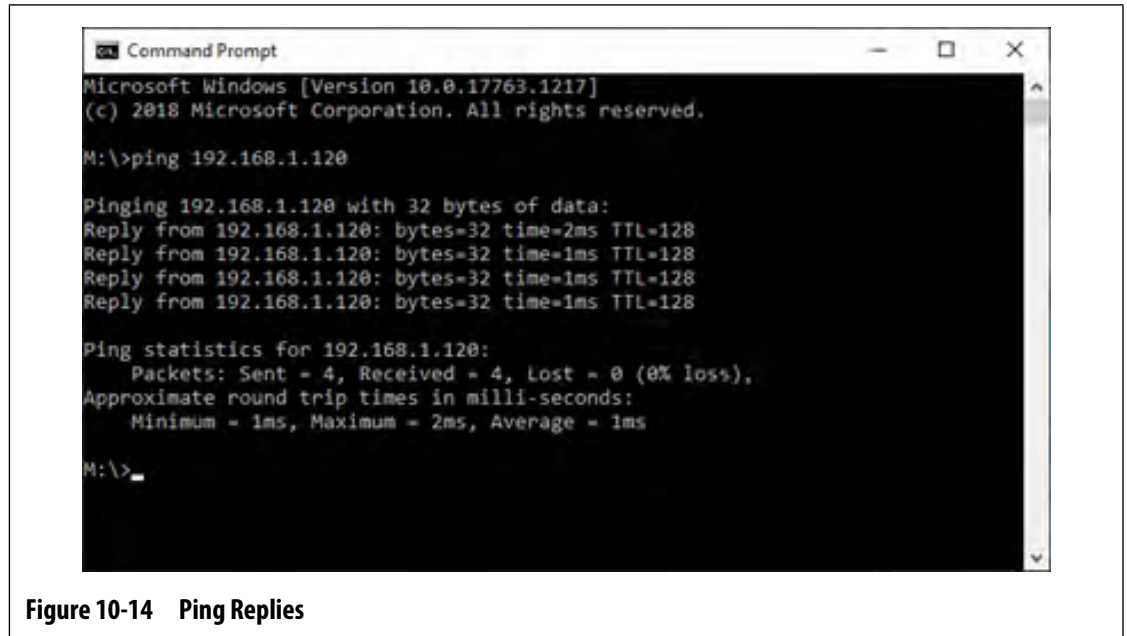

Figure 10-14 Ping Replies
7. Make sure that four replies from the controller are shown on the command prompt widow (refer to Figure 10-14).